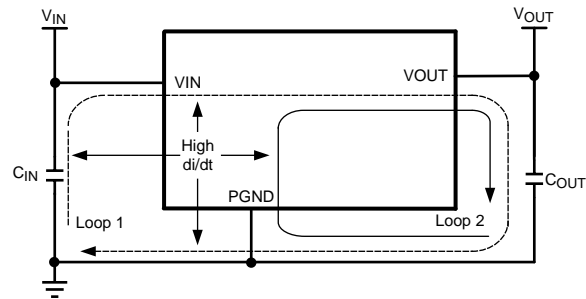

Figure 53. Critical Current Loops to Minimize
From an EMI reduction standpoint, it is imperative to minimize the high di/dt paths during PCB layout as shown in Figure 53. The high current loops that do not overlap have high di/dt content that will cause observable high frequency noise on the output pin if the input capacitor (C_{IN}) is placed at a distance away from the LMZ13610. Therefore place C_{IN} as close as possible to the LMZ13610 VIN and PGND exposed pad. This will minimize the high di/dt area and reduce radiated EMI. Additionally, grounding for both the input and output capacitor must consist of a localized top side plane that connects to the PGND exposed pad (EP).